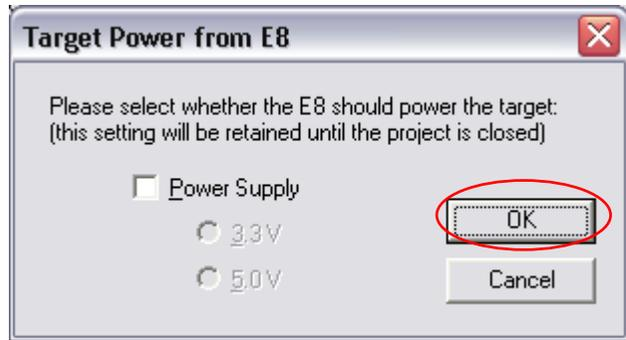

Figure 82:
8. The following screen will appear. Press 'OK' (Figure 82)